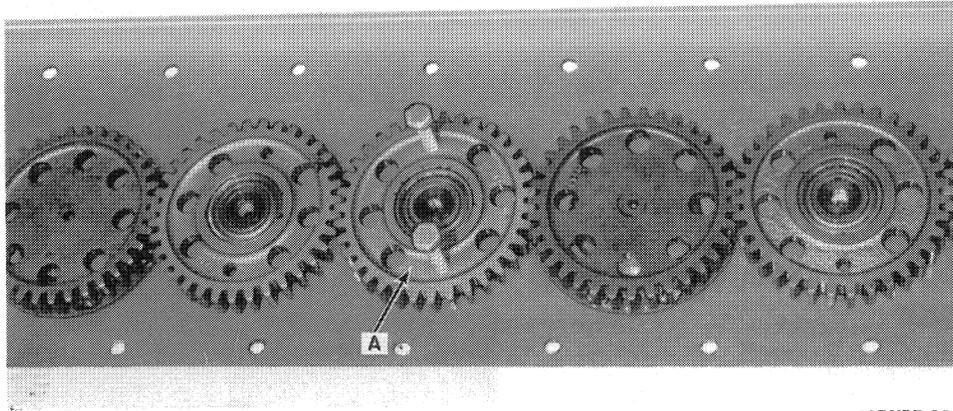

FIGURE 10
6. Place the cutter bar in an upside-down position and remove the bottom half as shown in Figure 10. Be sure to collect the tapered washers on each idler stud. The